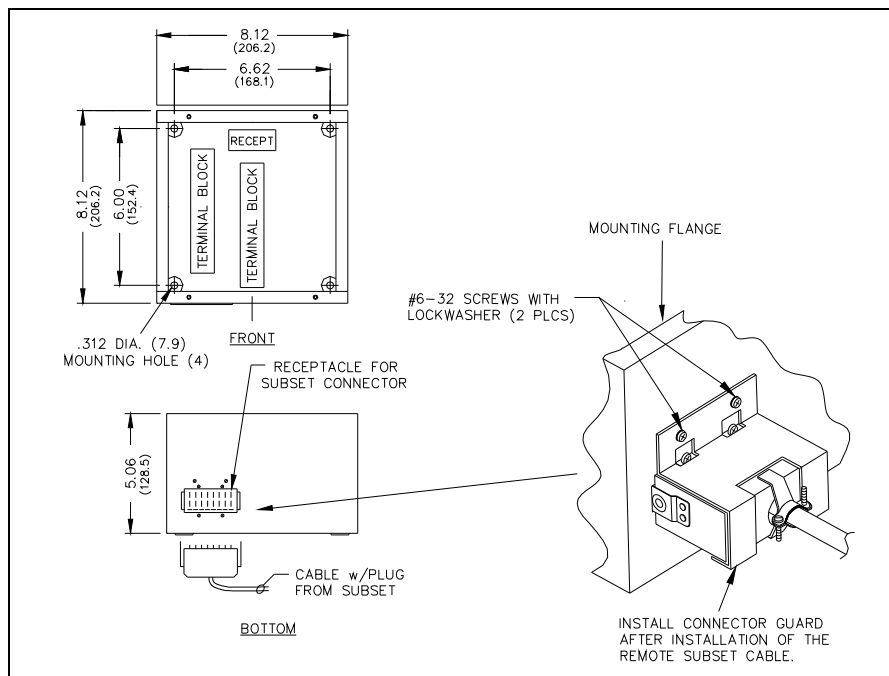

Figure 3. Mounting Details
There are four 0.312-inch diameter mounting holes in the corners of the amplifier enclosure. See Figure 3 for dimensions. When mounting the enclosure, use caution to avoid damaging the terminal blocks inside. Install the connector guard over the remote cable plug using the screws provided as shown in Figure 3 to comply with NRTL requirements.
2. Plug the subset connector into the receptacle located at the bottom of the enclosure. Secure the connector with the connector guard and screws provided. See Figure 3.